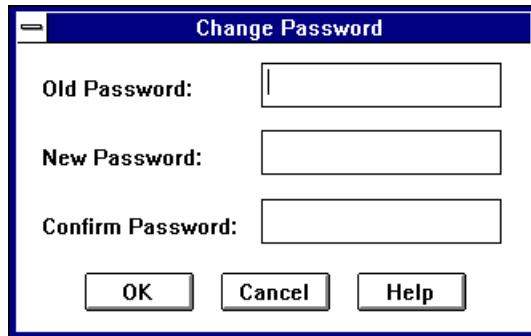

Figure 12-1. Change Password Dialog Box
- 2 Select **Server Administration** from the View menu. Then select **Change Password**. The Change Password dialog box appears, as shown in Figure 12-1.
- 2** Select **Server Administration** from the View menu. Then select **Change Password**. The Change Password dialog box appears, as shown in Figure 12-1.